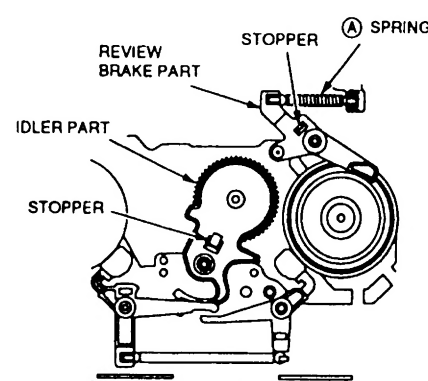

Fig 15.
- 2: Release the stopper of the IDLER PART and remove it as shown in Fig 15.